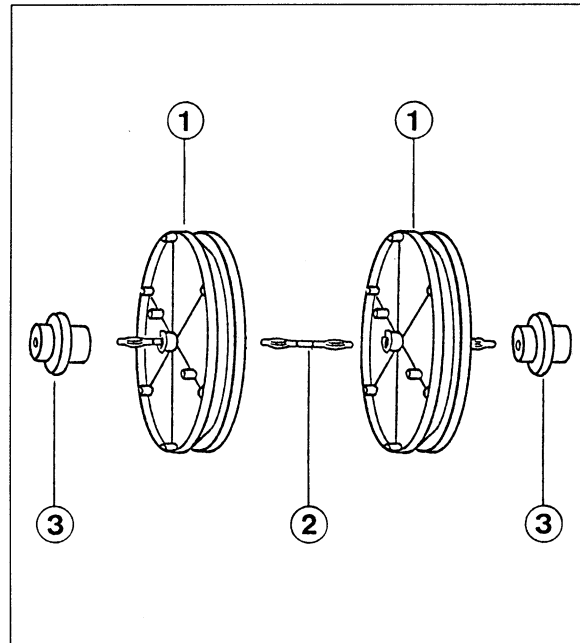

Fig. 2 Plugging together two pulleys (1) to form a "double pulley" using a coupler plug (2). Increasing the weight by attaching weights (3).
3. Fasten the two pulleys together using the connector plug. ► Fig. 2